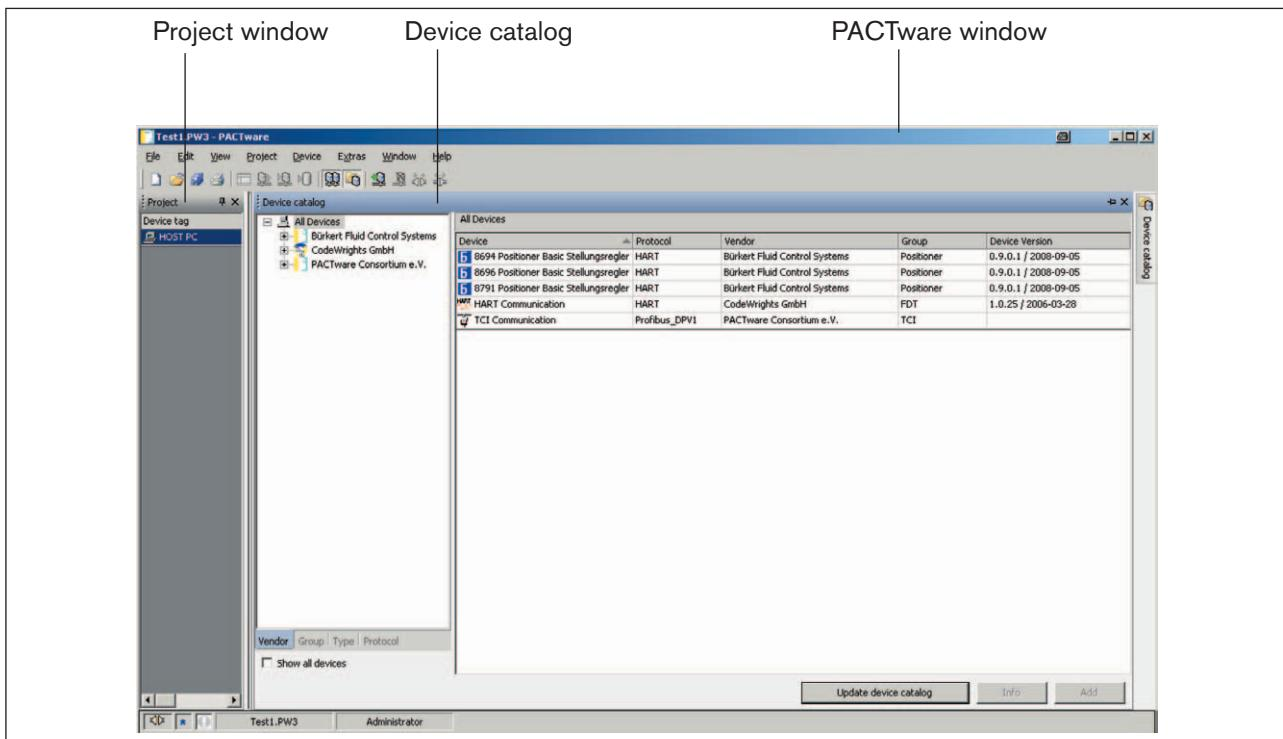

Fig. 11: Device catalog with HART Comm DTM and Bürkert device DTMs
- After the device catalog is opened again, the Burkert device DTM s are present; see "Fig. 11: Device catalog with HART Comm DTM and Burkert device DTM s"